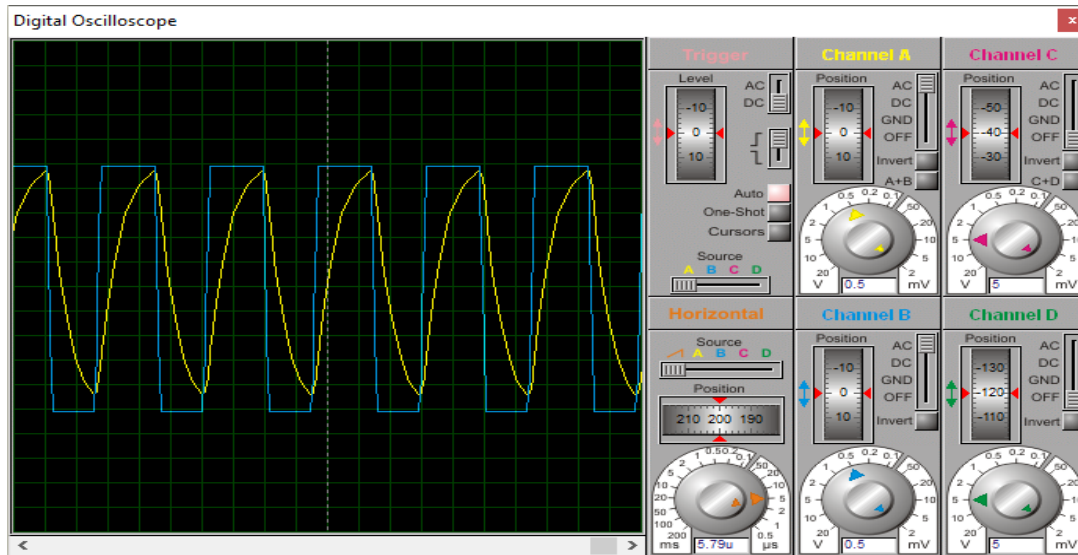

Figure 1.22: Transient Response of RC circuit.
6. You can also use signal generator instead of pulse voltage source and the connection of signal generator is like figure 1.22